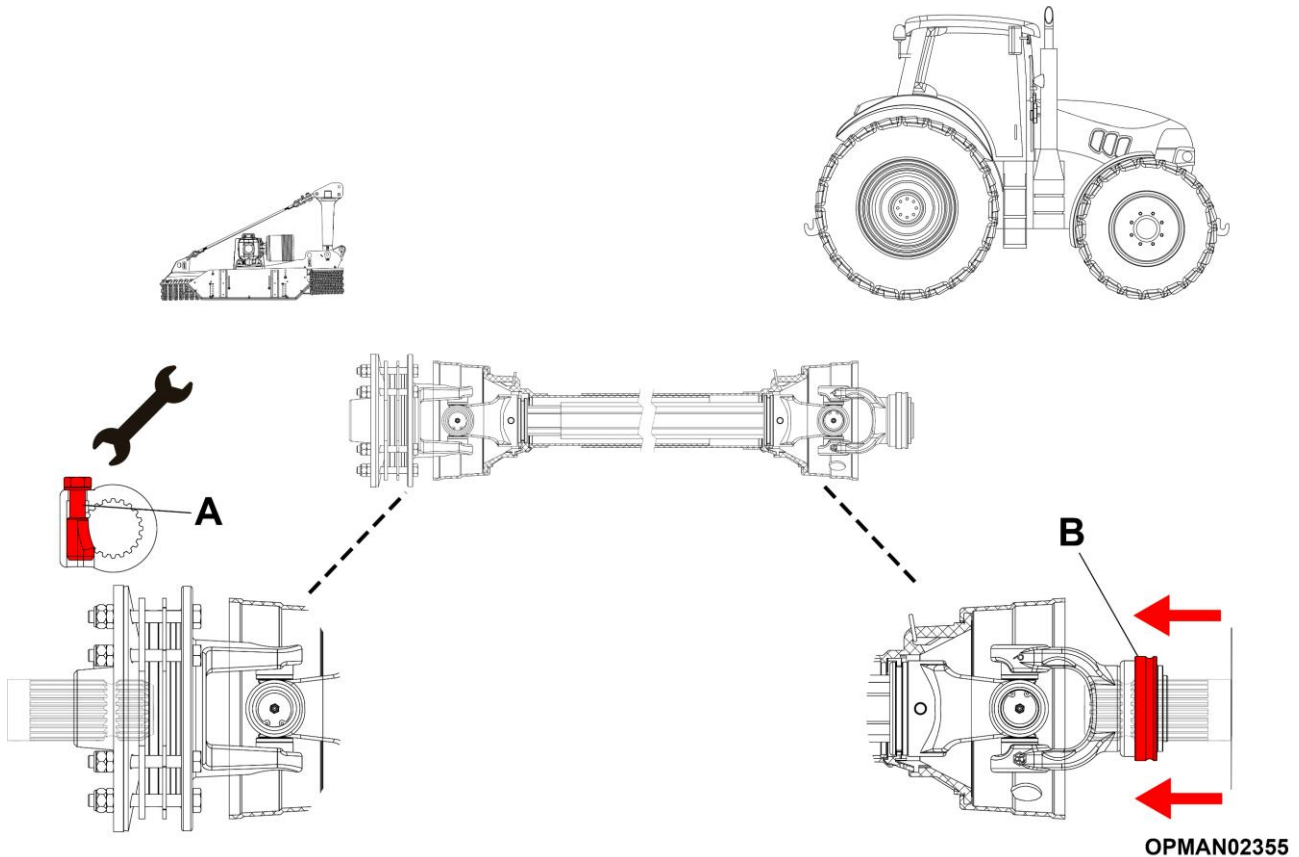

Figure 4.7 – Multicut Input Shaft Fitting & Removal
- 4.4.1.1 Proceed to remove the conical bolt from the machine end of the input PTO shaft. See Figure 4.7 (A).
- 4.4.1.2 Install the input PTO shaft onto the splitter gearbox lining up the slot in the splitter gearbox shaft with where the input shaft bolt will be placed; see Figure 4.7 (A). Replace the bolt and tighten to a torque of 135Nm (100 ft/lbs).
- 4.4.1.3 Pull the collar back of the spring collar on the PTO driveshaft and align the grooves and splines of the PTO driveshaft with those of the PTO output shaft of the tractor; see Figure 4.7 (B).
- 4.4.1.4 Push the driveline yoke onto the tractor output PTO shaft, release the spring collar and position the yoke of the input shaft until the spring collar is seated onto the tractors output PTO shaft; see Figure 4.7 (B).
- 4.4.1.6 Pull the collar back of the spring collar on the PTO driveshaft and pull back the driveshaft off the output splined shaft of the tractor; see Figure 4.7 (B).
- 4.4.1.7 To then completely remove the shaft, remove the conical bolt from the machine end; see Figure 4.7 (A).